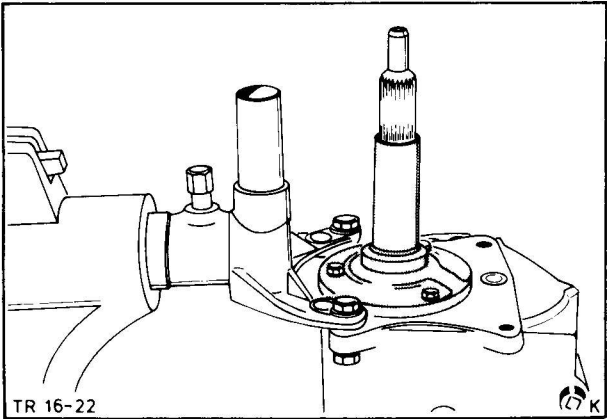

Fig. 26. Detach main drive gear bearing retainer
11. Remove main drive gear bearing retainer (3 bolts), Fig. 26.